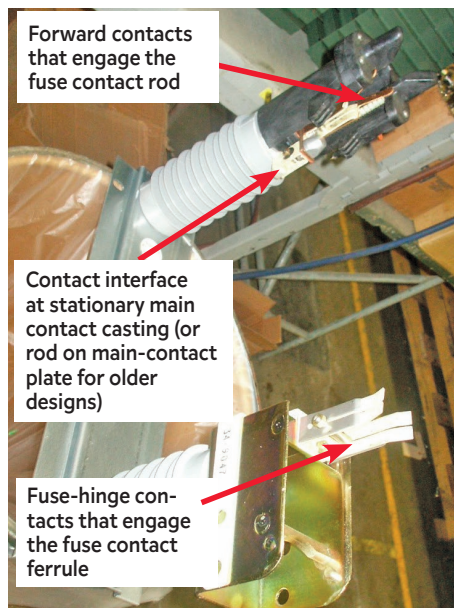

Figure 2. Lubrication points on fuse mounting include three contact locations, namely, the main contact, forward contact and fuse hinge contacts.
2. On the contact interface at the fuse-mounting stationary main contact. See Figure 2.